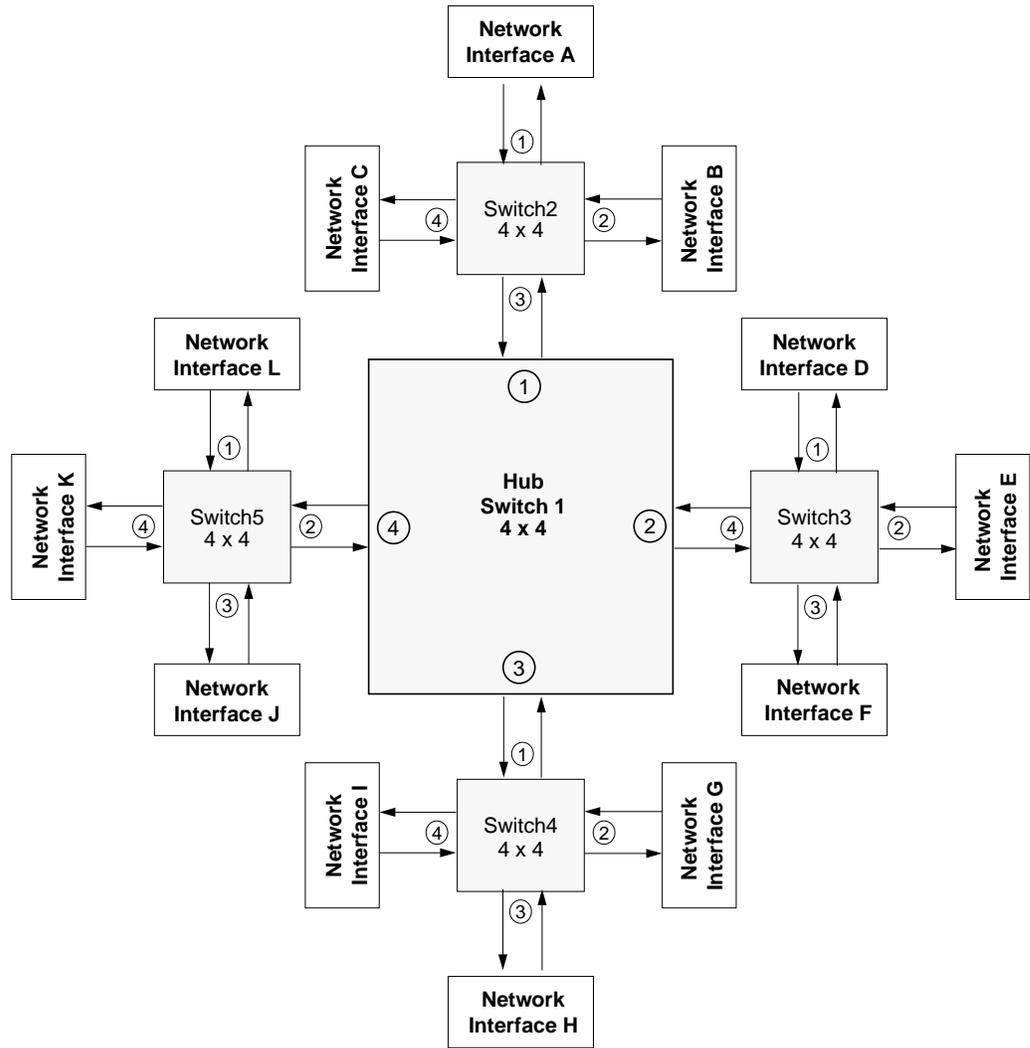
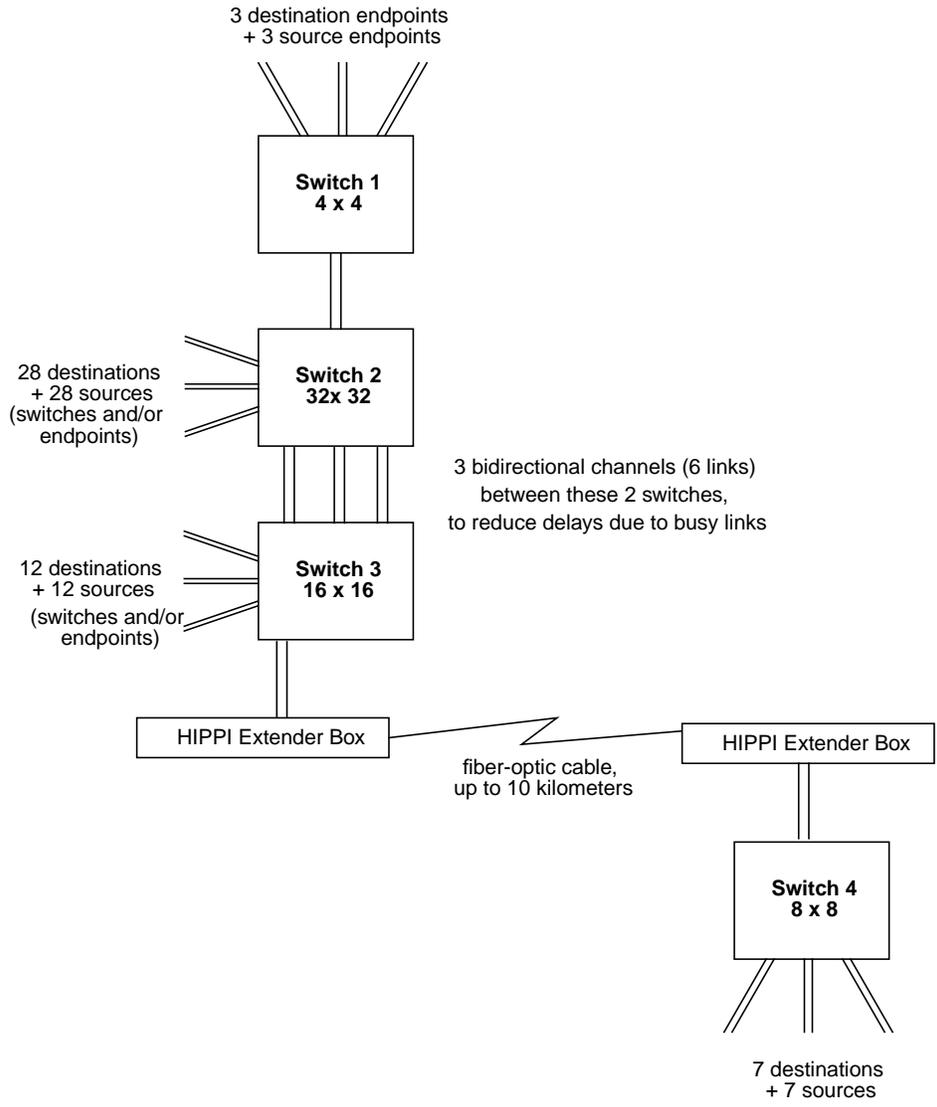

Figure 1-23 HIPPI Fabric Configurations With Multiple Switches
Figure 1-24 Complex HIPPI Fabric Configuration
Figure 1-23 illustrates a fabric with multiple switches, and Figure 1-24 illustrates a complex HIPPI fabric including a long-distance fiber optic link and multiple ports between switches to improve connection setup time by reducing the probability of encountering a busy link.
- If a network is built according to the guidelines in Appendix B of RFC 1374, the recommended maximum number of hops (switches) between any two endpoints is three. This limit has major implications for the structure and size of a HIPPI network. The structure is limited to a single hub switch with satellite switches attached to the hub's ports, but no switches attached to any satellite ports. Figure 1-23 shows an example of an RFC 1374-compliant network. Table 1-7 summarizes the maximum number of switches and endpoints possible for a network in which switches of only one size are used throughout the network.